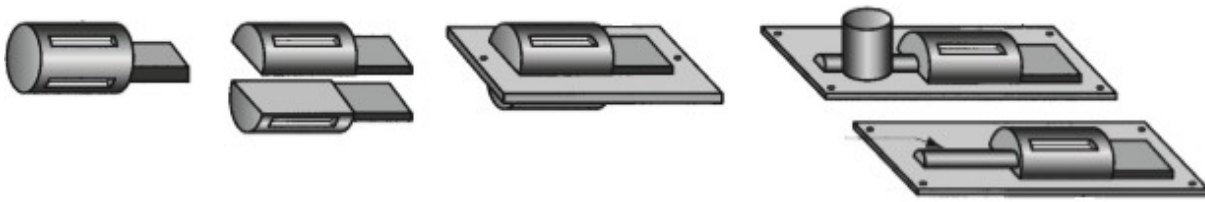

Figure 2
4.1 Identify and describe the type of patterns shown in Figure 2. [8]